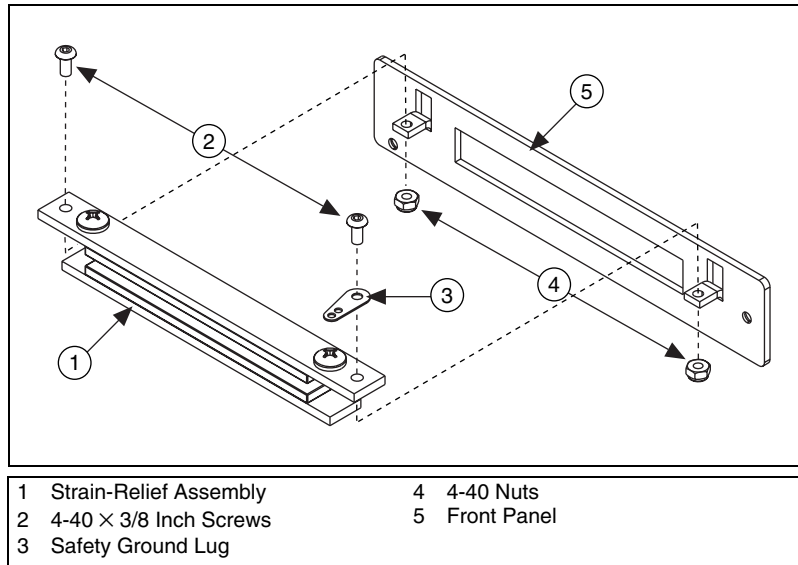

Figure 2. Connecting the Strain-Relief Assembly and Front Panel
1. Install the safety ground lug and strain-relief assembly to the front panel using two 4-40 \times 3/8 inch screws as shown in Figure 2.